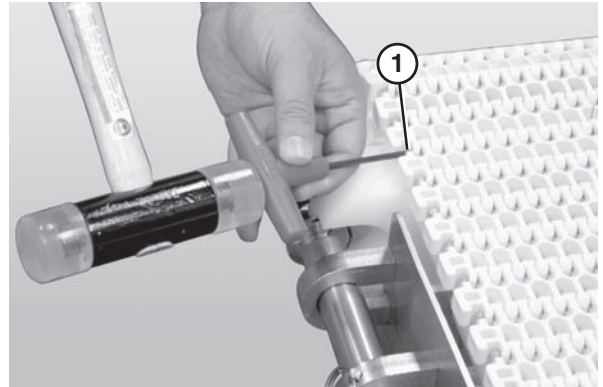

Figure 53
1. Use a punch and hammer to push the belt rod out by striking the rod end opposite the retaining head (**Figure 53, item 1**).